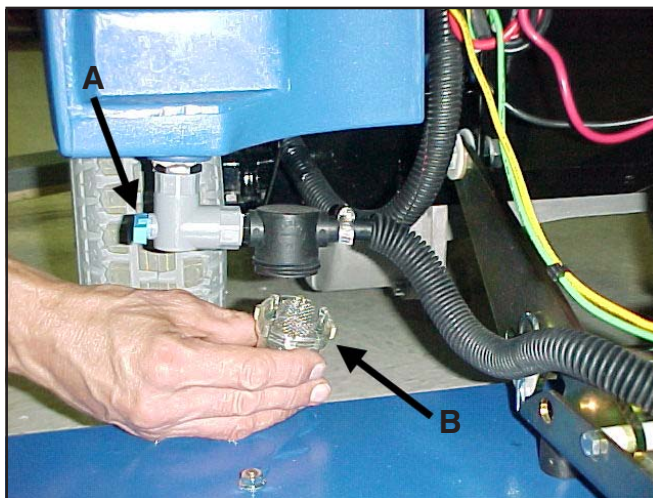

Figure 30
1. Turn the solution valve to the off position. See figure 30, A.
2. Remove and clean the filter screen. See figure 30, B.